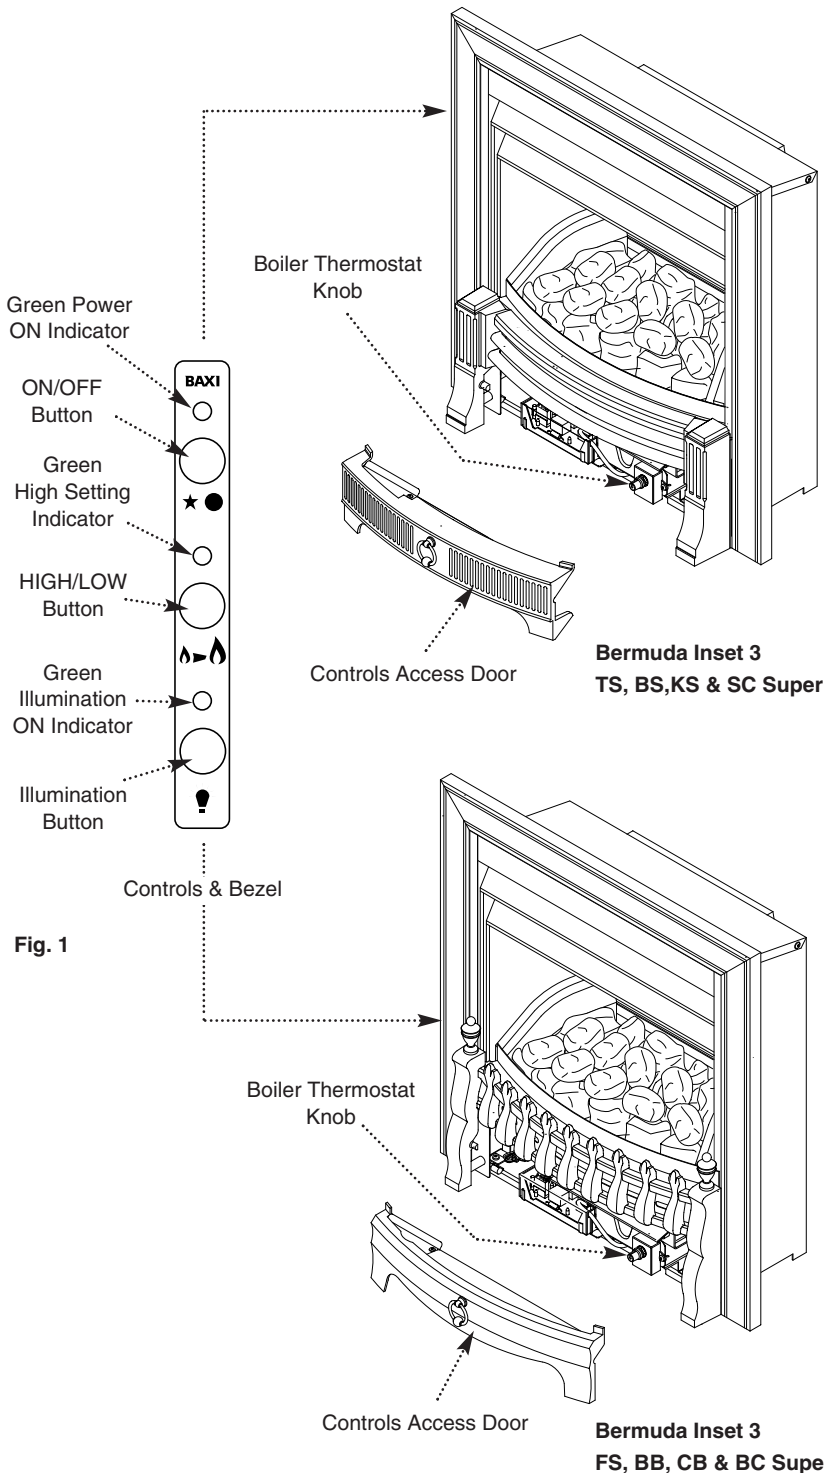

Fig. 1
3. The fire is controlled by three switches situated on the upper left hand side of the fire surround (Fig. 1). The fire has three settings: